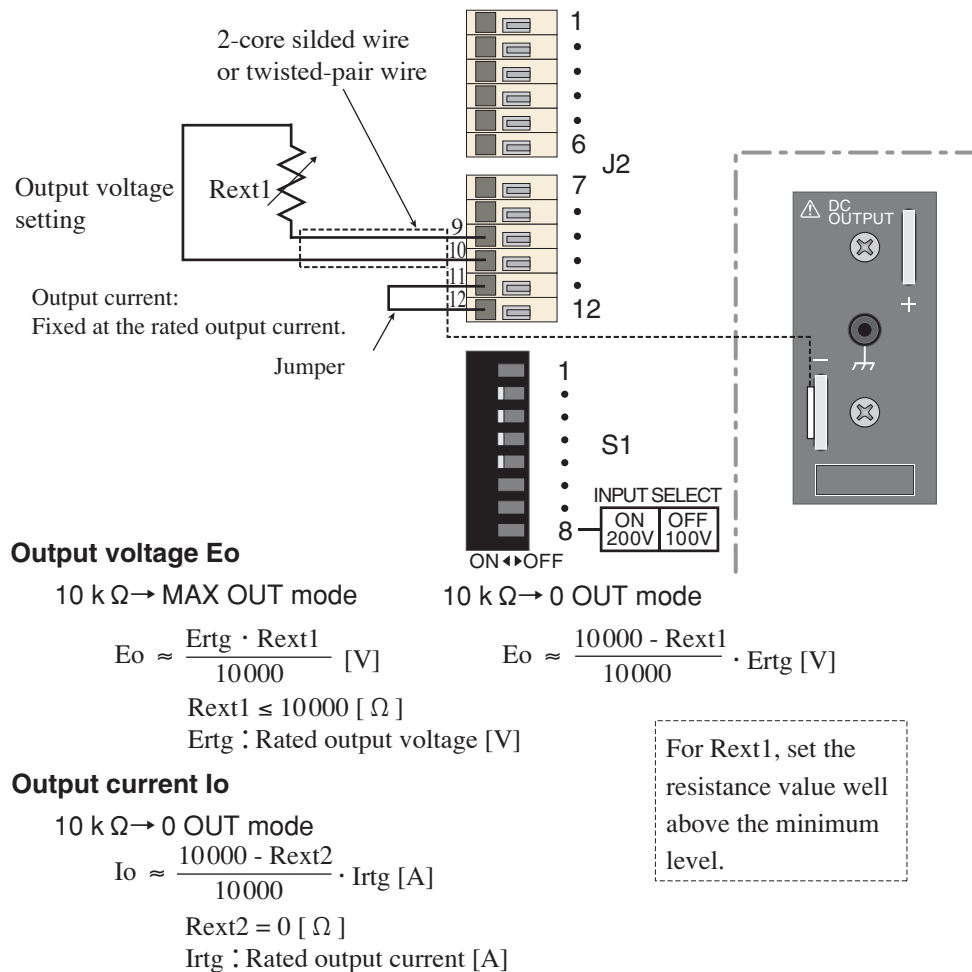

Fig. 4-12 Connection for Control 6
- Fig. 4-12 shows the general relationship between Rext1 and the output voltage E_o and between Rext2 and output current I_o . But since they are approximate formulas, if you need precise zero and maximum values for output values, adjust the Rext1 and Rext2 values (E_o applied to the $10\text{ k}\Omega \rightarrow 0\text{ OUT}$ mode).